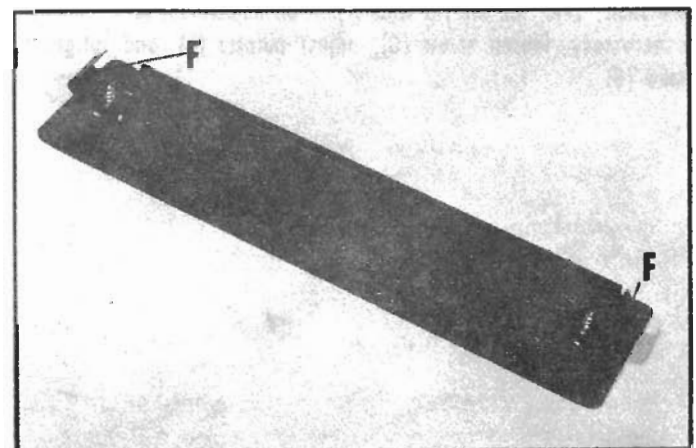

Fig. 31
The table insert, including the accessory dado and moulding cutter inserts, is held in the table by spring clips (F) Fig. 31. The insert must not project above the top surface of the table top. After extended usage, careful light bending of the spring clips (F) will restore tightness. Immediately replace spring clips that are broken or ineffective.